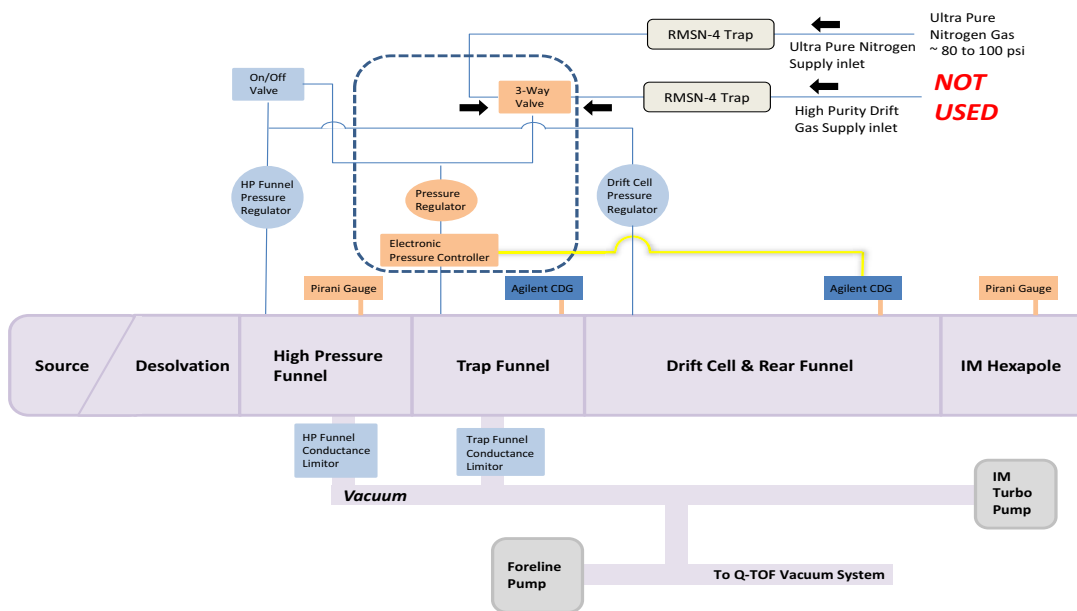

Figure 2. Gas plumbing for the IM section of the IM-QTOF instrument for use with Ultra Pure Nitrogen drift gas
- 1 Turn the 3-way valve to the **Ultra Pure Nitrogen** position. See **Figure 2**.